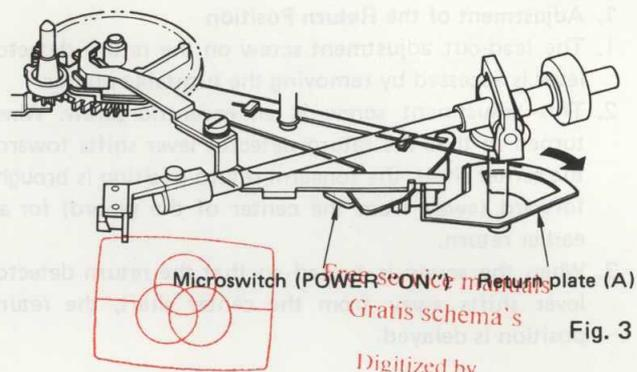

Fig. 3
2. Return plate (A) connected to the tonearm pivot shaft will move together with the tonearm and thereby turn the microswitch (POWER) on to start the motor. (Fig. 3)